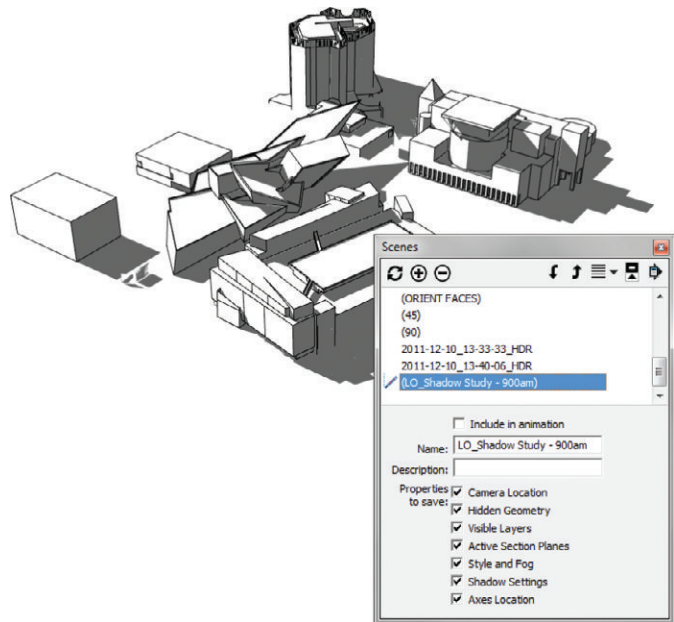

Figure 16.25 The LO_Shadow Study scene in SketchUp and the Scene properties to be saved
5. Rename the scene **LO_ Shadow Study - 900AM** and check on all of the Properties to Save. Move the scene to the bottom of the list using the “Move Scene Down” button in the Scenes dialog (Figure 16.25).